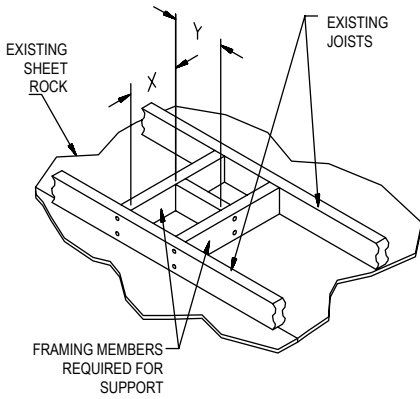
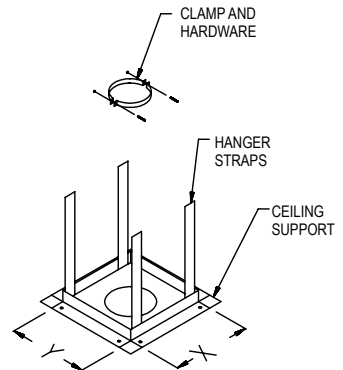

Figure 4
Figure 6
3. Ceiling Support. For a ceiling supported system, install the Square Firestop/Support as shown in **Figures 6, 7, and 8**. The Firestop Support must be framed in and the dimensions are shown in **Table 1** and shown in **Figure 4**. Firestop Supports are currently manufactured for pipe sizes of 3" through 12" only. Larger sizes may be locally fabricated from sheet metal, provided that the mandatory 1-inch clearance is maintained, the pipe is adequately supported, and the installation is acceptable to Local Authorities. In multistory buildings, a Firestop/Spacer must be provided at every floor /ceiling level other than the first floor which requires a support.